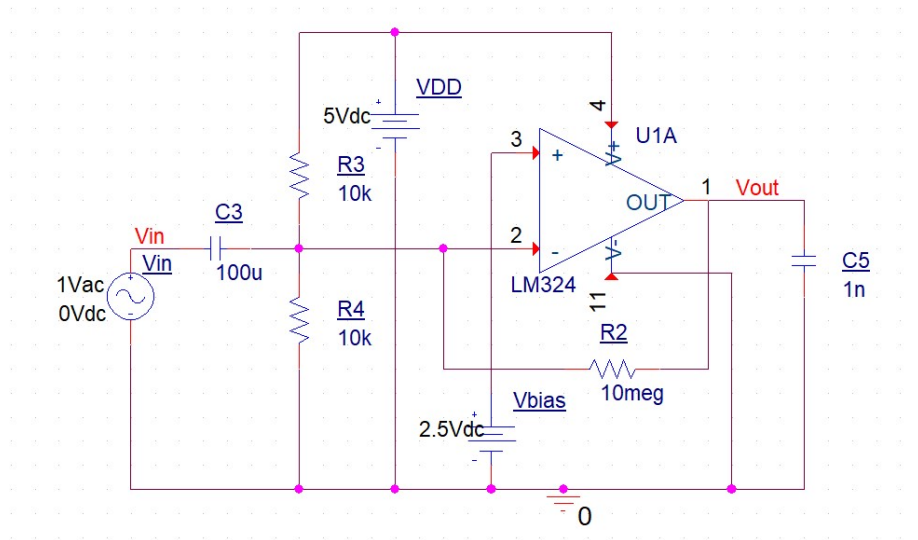

Fig. 6.15 Open-loop gain measurement of LM324
3. Explore the open-loop frequency response of Fig. 6.15